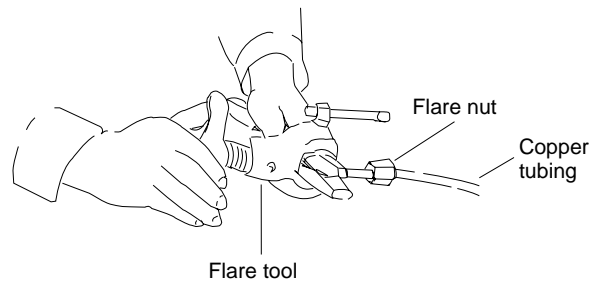

Fig. 44
- Make a flare at the end of copper tube with a flare tool.\* (Fig. 44)